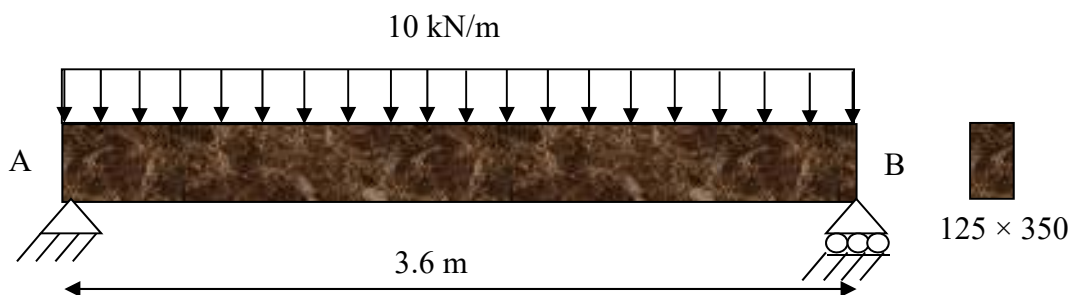

Figure 6/ Rajah 6
4. For the beam subjected to loading shown in **Figure 6**,